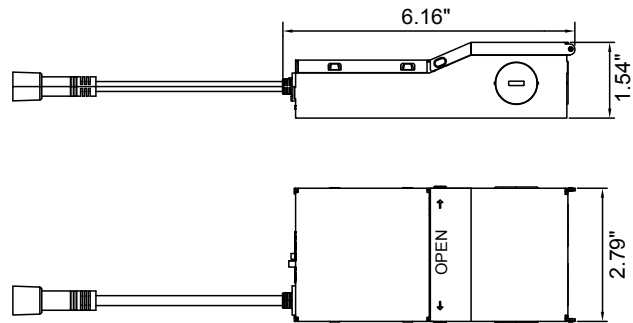

Fig. 2
- B. If new hole is to be cut, use provided hole template. Place template over the desired location. Cut the opening with a saw (not included). (Fig. 2)